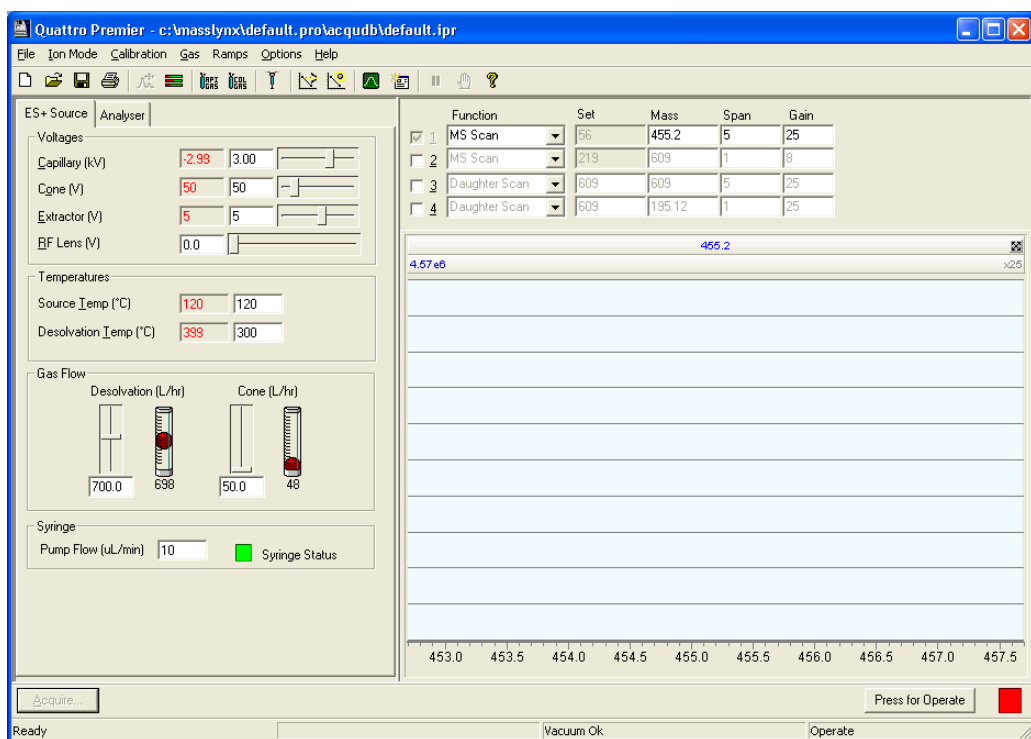

Figure A-2 Tune Window
4. Click the Instrument shortcut bar MS Tune icon to open the Tune window (see Figure A-2).